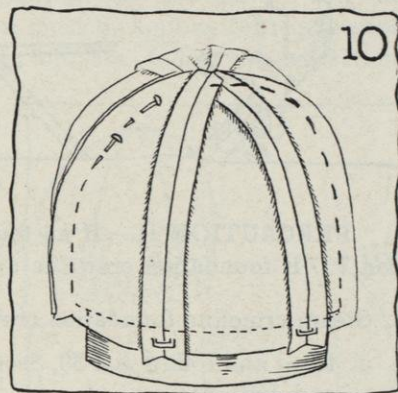
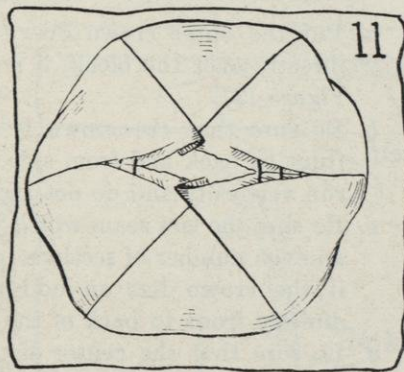

FIG. 10.
FIG. 11.
k. Try the basted crown, wrong side out, on block with the seam that you made last (that is, the one which joined the two halves) running from front to back of block (see Figure 10).
(1) Be sure that the crown is on straight.
(2) Put a staple at the bottom of the seam of each section, sticking it into the headsize lift. The crown should fit smooth and tight without any wrinkles.
(3) If you think the crown is correct, show it to your teacher while it is still on the block.
(1) Pin these alterations, if needed, in each seam (see Figure 10). **Do not remove fullness in one seam only. It will make your sections uneven.**
(2) Baste any needed alterations.
(3) Try on the block again.
(4) Show the crown to your teacher while it is still on the block, to be sure that it is correct.
m. Before stitching the seams by machine, rip the basting that joins the two halves for about 2 inches at the tip where all the sections meet (see Figure 11). Do this very carefully so that the sections will not fray. This is done so that you can sew the other four seams more easily on the machine.